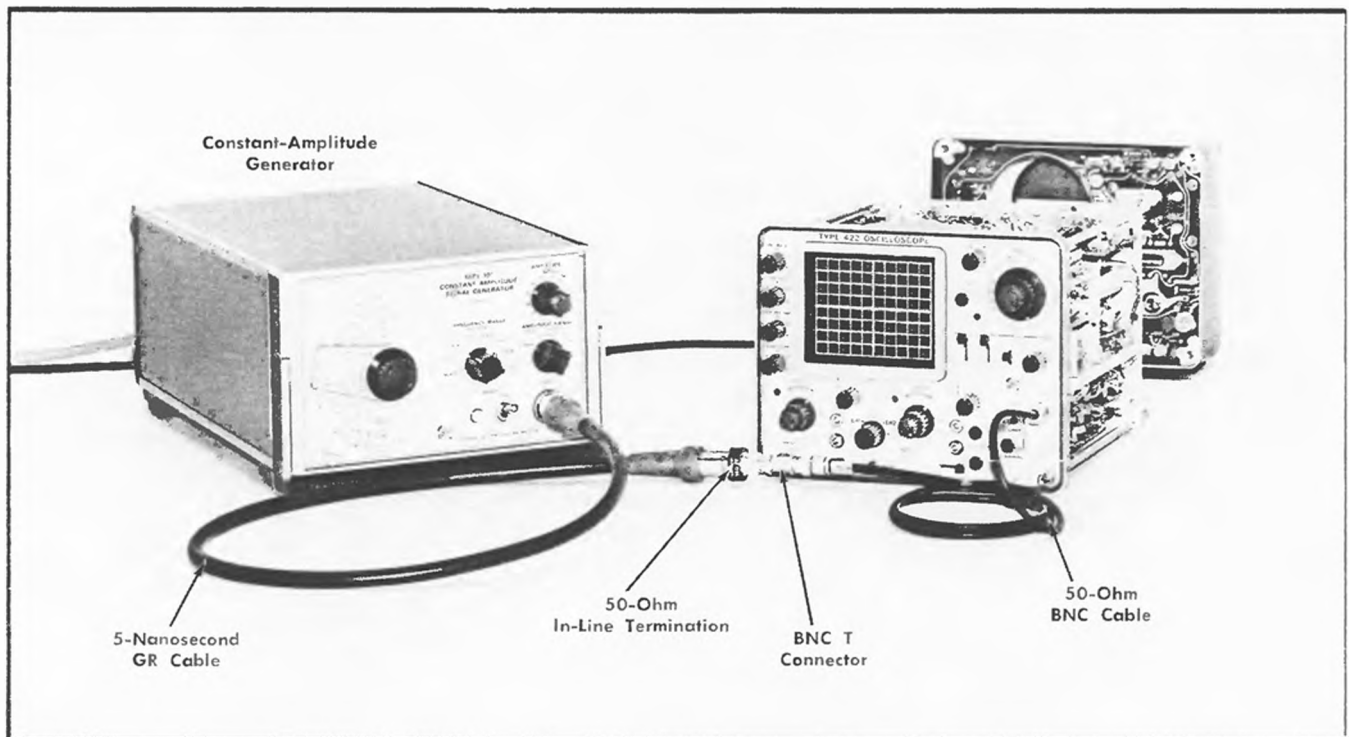

Fig. 6-37. Initial test equipment setup for steps 34 and 35.
a. Test equipment setup is shown in Fig. 6-37.